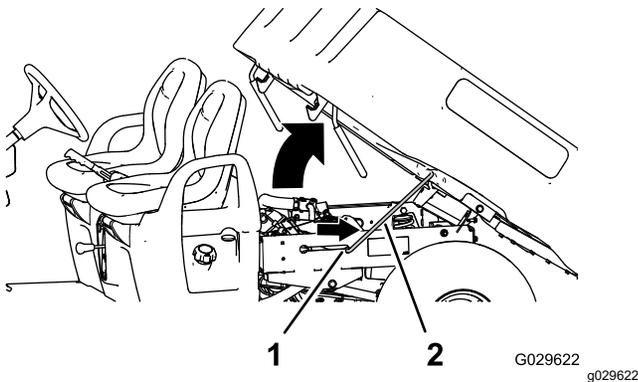

Figure 13
2. Pull the prop rod into the detent slot to secure the bed (Figure 13).
2. Pull the prop rod out of the detent slot (Figure 13).
3. Lower the bed until it latches securely into place (Figure 13).